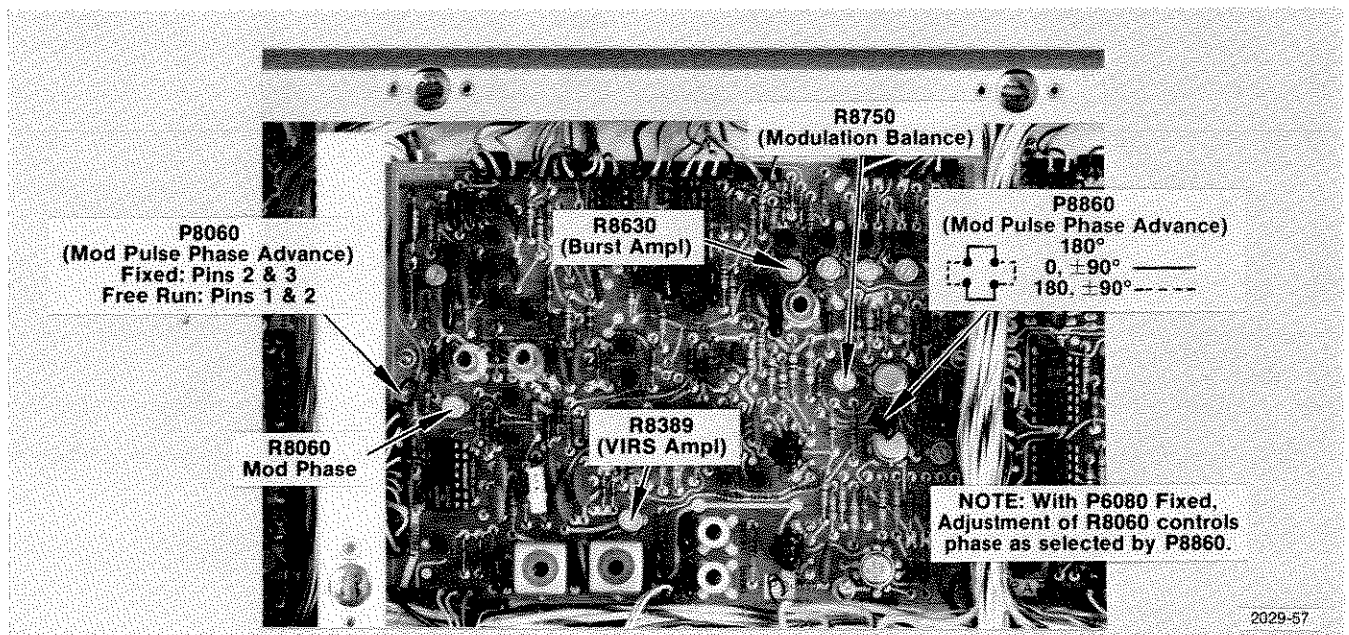

Fig. 1-23. 147A chrominance adjustments.
2. Adjust R7661 (Modulation Gain) and R7357 (Luminance Gain) for (1) a peak modulation amplitude of 714 mV, and (2) the best flat bottom on the modulated pulse. See Fig. 1-23 for the location of all adjustments in this procedure.
By changing the connector on pins 1 and 2 of P8060, see Fig. 1-23, to pins 2 and 3, the phase of the Full Field Modulated Sine-Squared Pulse will be fixed. This is shown in Fig. 1-26B.
**Advance 180°.** As discussed above, it is possible to obtain Phase Advance of the Modulated Sine-Squared Pulse during VITS. If needed, the phase can be changed 180° from that obtained with adjustment of R8060 by rotating the connector on P8860 (see Fig. 1-23) by 90°. This provides a 360° control range of the VITS phase.
2. Adjust R8750 (Modulation Balance), see Fig. 1-23, for minimum modulation on the blanking level.